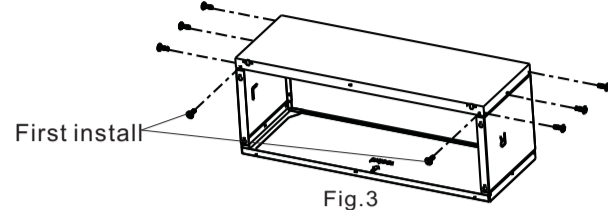

Fig.3
- Install the BOTTOM COVER with the LEFT COVER and RIGHT COVER together by using 8 short screws as shown below. (See Fig.3)